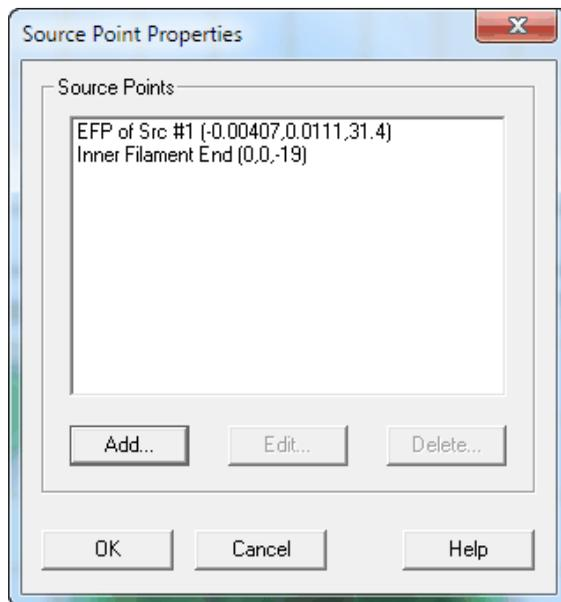

Figure 2.6 Adding a source point at the inner filament end
- 1 Click **Source**, **Source Point Properties**, **Add** to add a new source point at the inner end of the filament: (0,0,-19), and give the new point the name **Inner Filament End**. The dialog box should look similar to Figure 2.6.